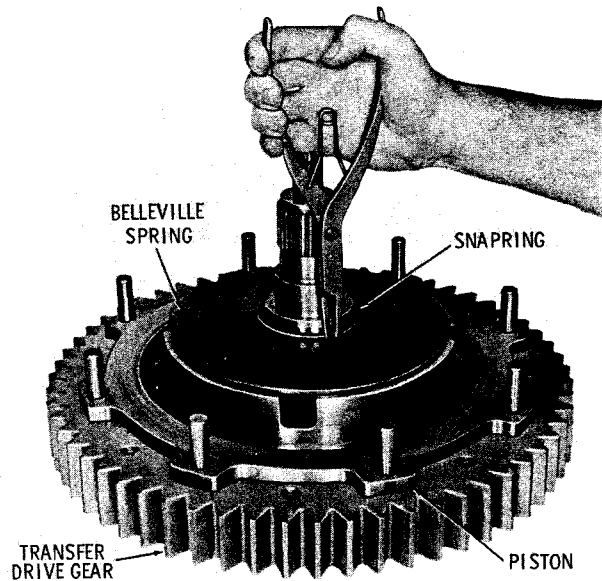

Fig. 5-23. Removing Belleville spring snapring
(3) Remove the snapring that retains the Belleville spring against the low-range piston (fig. 5-23). Remove the Belleville spring, and remove the piston. Refer to paragraph 6-11 for piston sealring replacement instructions.